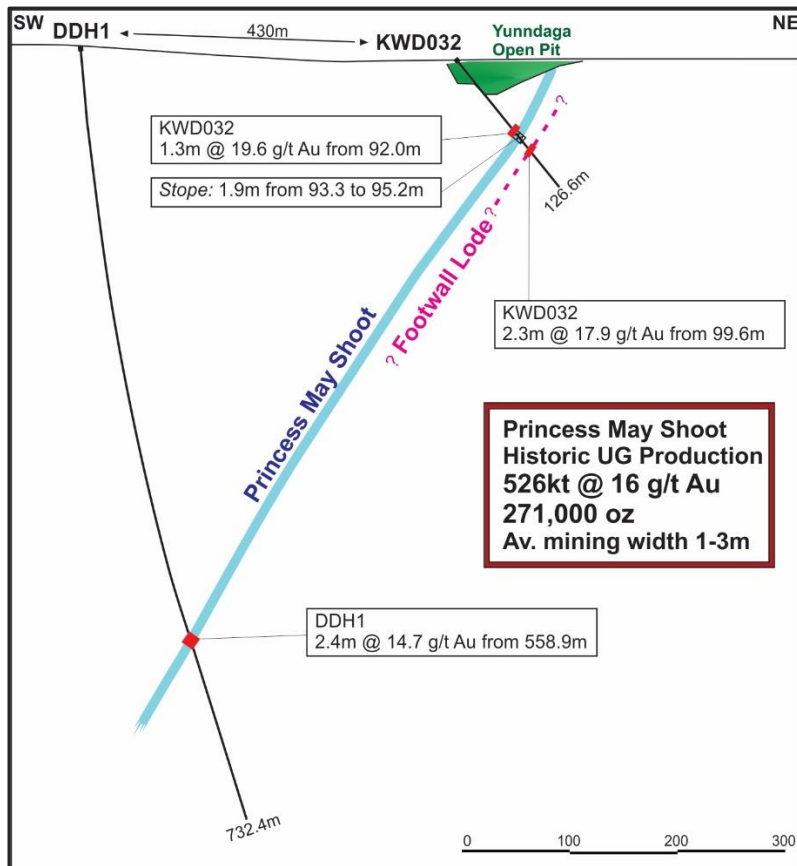

Figure 1: Schematic cross section of the Princess May Shoot, the deepest drill intersection within the MGP (DDH1), and location of new footwall lode.
KWD031 – 034 are located closer to or within the historic Princess May lode which has been mined to 600 vertical metres. The deepest historic drilling at Menzies targeting an extension of the Princess May shoot at Yunndaga returned 2.4m @ 14.7 g/t Au from 558.9m in DDH1 (Figure 1). Kingwest considers that depth potential persists across the project at the other high-grade lodes.
1.3m @ 19.82g/t Au from 92.0m, **inc. 0.3m @ 64.4g/t Au** from 92.3m in KWD032 (in hanging wall of Princess May stope at Yunndaga) and **2.28m @ 17.87g/t Au** from 99.65m, **inc. 1.20m @ 33.80g/t Au** from 99.65m in KWD032 (new footwall lode beneath Princess May workings at Yunndaga) (Figures 1 and 2).